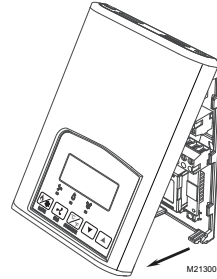

Fig. 2. Remove cover of thermostat
1. Open up by pulling on the bottom side of thermostat. (Fig. 2)